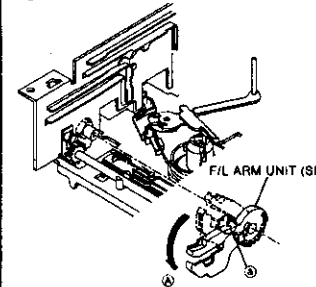
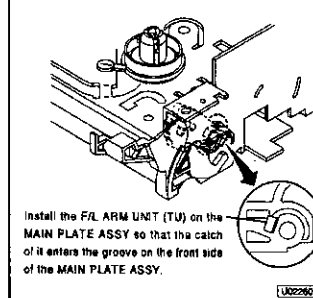

Fig. 2-25-1
Fig. 2-26-2
- 1 Fully move the F/L ARM UNIT (SP) in the direction shown by arrow (A) as shown in Fig. 2-25-1.
- 2 Unfasten the catch (a) of the F/L ARM UNIT (SP) shown in Fig. 2-25-1 to remove the F/L ARM UNIT (SP).
- 1 Fully move the F/L ARM UNIT (SP) shown in Fig. 2-25-1 in the direction shown by arrow (A) as shown in Fig. 2-26-2.
- 2 Install the F/L ARM UNIT (TU) in the position shown in Fig. 2-26-2.